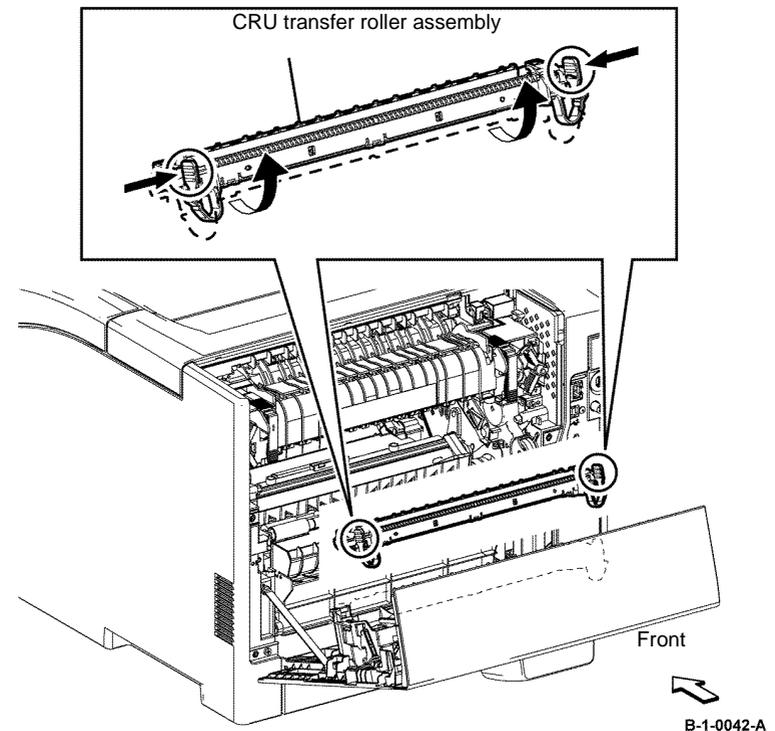

Figure 1 CRU transfer roll assembly removal
2. Press the two hooks on the left and right sides of the CRU transfer roller assembly to unlock the CRU transfer roller assembly, then remove the CRU transfer roller assembly by rotating it along the axis between the bosses, Figure 1.